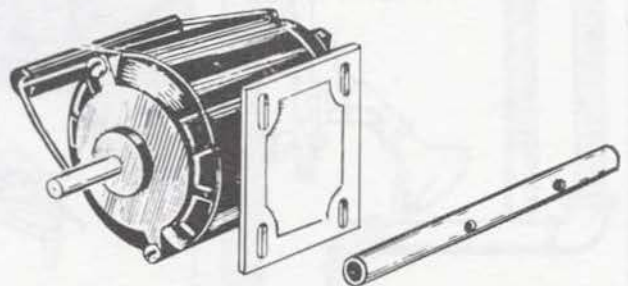

Figure 2
2. Drill holes through the rail (broom handle or pipe) spaced so they match the two holes on one edge of the motor base (Figure 2).